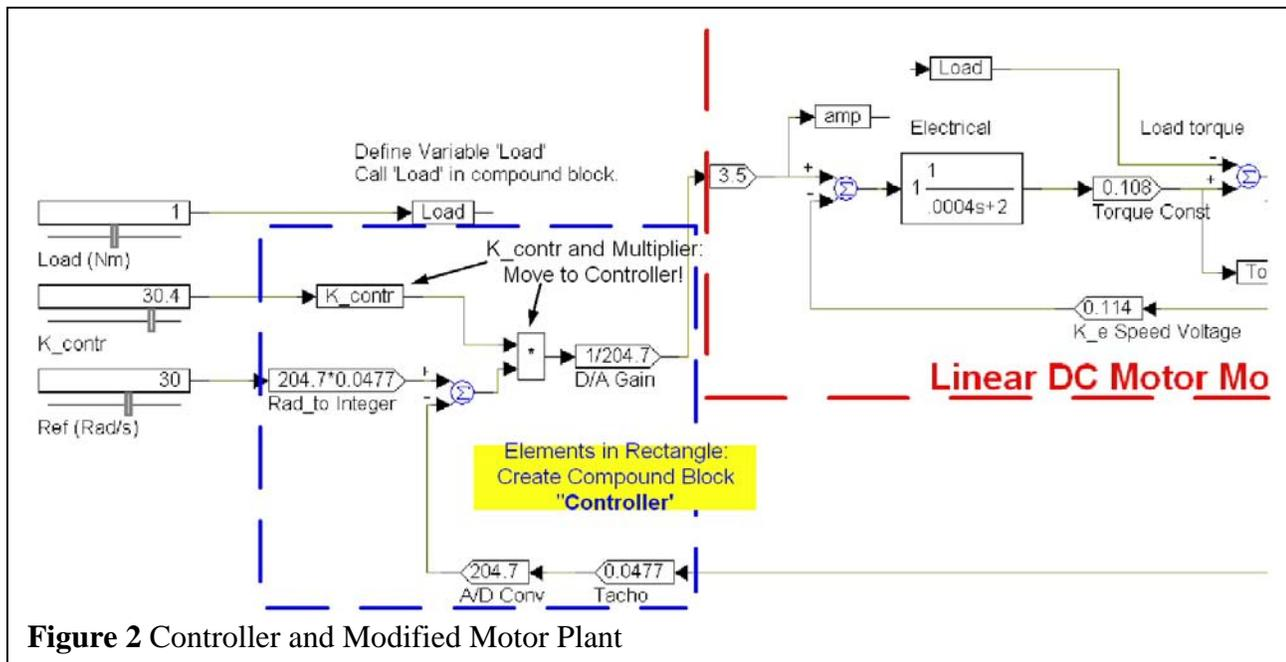

Figure 2 Controller and Modified Motor Plant
1. If you have not already done so, complete the model of the electric motor of Lab 2 in VisSim by adding the nonlinear elements, and the parameterized amplifier gains (= sliders), K_{contr} and a slider for the load K_{load} . Also enter the D/A and A/D gains. In VisSim, create a new simulation, name it 'pmotor' and save it. Open your Lab 2 plant model in VisSim. Copy the entire Lab2 model into 'pmotor' and save pmotor. Add the other elements of the figure above and connect them as usual. See Fig. 2 below for details. Modify both the linear and the nonlinear plants by moving the multiplier in each plant to the controller, see
Fig.2. Now each compound block has only one input. Remove the second input with the 'Remove Connector' tool in the icon bar. Open each compound block. In each compound block, connect the amplifier input to the arrow at the far left side of the compound block. Fig. 2 shows a modified plant compound block, and the elements of the controller compound block.